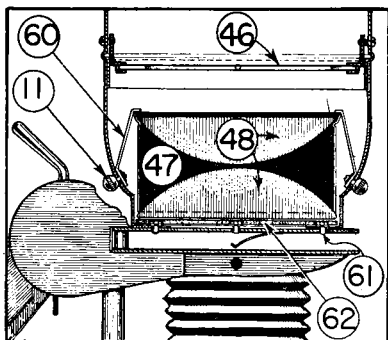

Figure 3B
SEE FIG. 3B AND PAR. 5b
5b. MODEL 250—Clean the Condenser Lenses (48) thoroughly with a soft lintless cloth and place the unmounted Condenser flat side down in the Condenser Lens Holder. Put the Condenser Lens Spacer with the attached Condenser Lens flat side up as in fig. 3B. Do not remove the mounted lens from the Spacer Ring. Avoid getting finger prints on the Lenses. To clamp Condenser Lenses in place, loosen thumb nuts (11) on the front and back of Condenser Lens Holder and insert the forked ends of the Clamps (60) under the heads of the Screws (11). Press clamps down and tighten nuts.